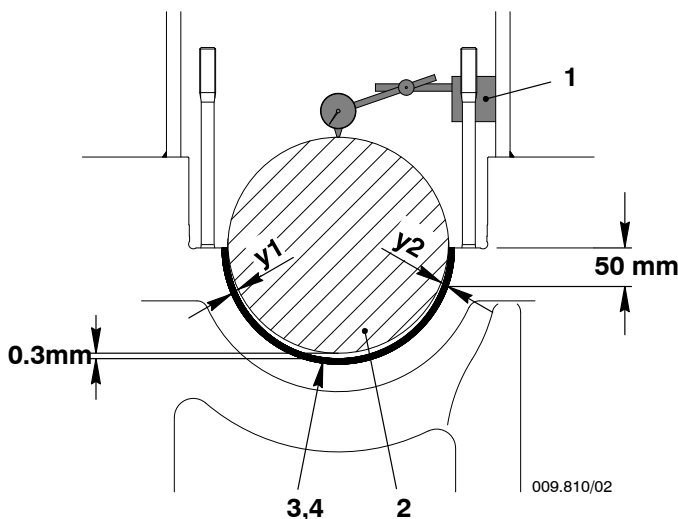

Fig. 13
- 1) Record the values of the lateral clearances (y_1 and y_2 , Fig.13) between the crankshaft (2) and the bottom main bearing shell (3,4) at approximately 50 mm below the bearing.
- 2) Install the dial gauge (1) above the crankshaft (2) as shown
- 3) Set the dial gauge (1) to zero.
- 4) Operate the HP oil pump (94931) to lift the crankshaft (2) to 0.3 mm.
- a) Install the hydraulic rams (94936, Fig.13) in a position where the lateral bearing clearance is smaller.
- b) Operate the HP oil pump (94931) to lift the crankshaft (1) to 0.3 mm.